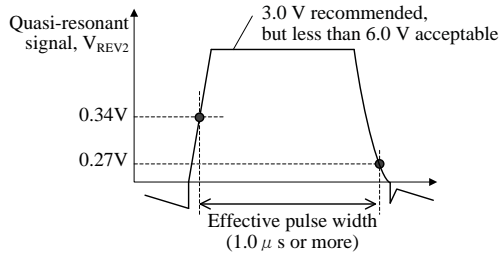

Figure 9-12. The effective pulse width of quasi-resonant signal
- The effective pulse width of quasi-resonant signal is $1.0 \mu s$ or more (refer to Figure 9-12)
Under the highest condition of VCC pin voltage in power supply specification, $V_{REV2} < 6.0\text{ V}$ (Absolute maximum rating of the BD pin) and the effective pulse width of quasi-resonant signal is $1.0\ \mu\text{s}$ or more (refer to Figure 9-12).